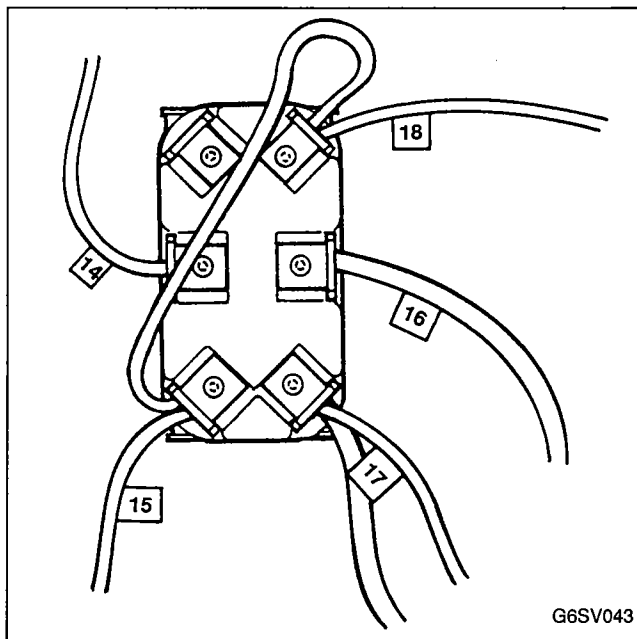

FIGURE 43. ICE/OFF/WATER PUMP SWITCH CHECK
2. Inspect switch (Figure 43) for correct wiring.